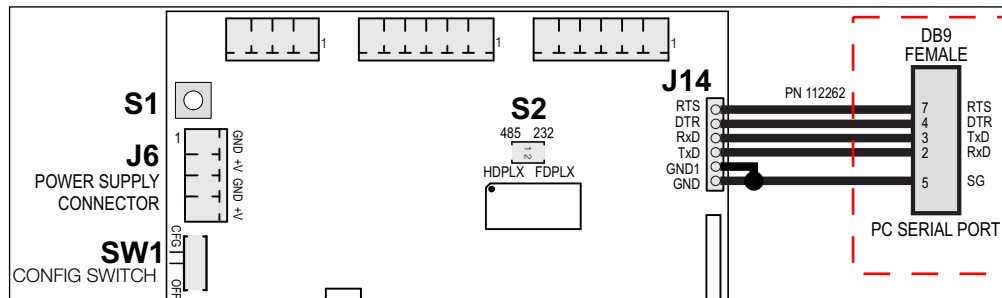

Figure 9-5. Host Connection to iQUBE² CPU Board
4. Connect power to system and place in SETUP mode by moving SW1 to the CFG position (see Figure 9-5 on page 100).
4. Connect power to the system and place it in SETUP mode by moving SW1 to the CFG position (see Figure 9-5 on page 100).
5. Connect power to the system and place it in SETUP mode by moving SW1 to the CFG position (see Figure 9-5 on page 100).